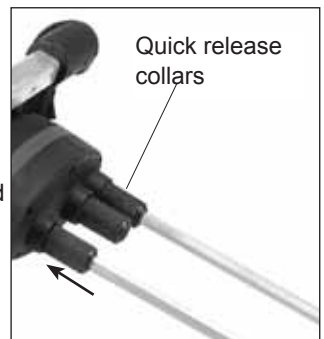

Fig.3
1. Pull outwards the knurled quick release collar (65) line up the hex of the mixing paddle shaft and push the mixing paddle fully home, then release the collar and pull the paddle outwards slightly and the paddle will audibly snap in place. See Fig.3.